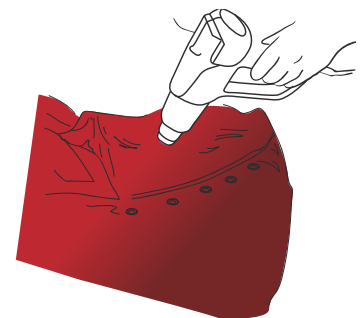

Figure 19
- › Then heat each rivet again to 80 °C - 90 °C (176 °F - 194 °F). (FIG. 19).